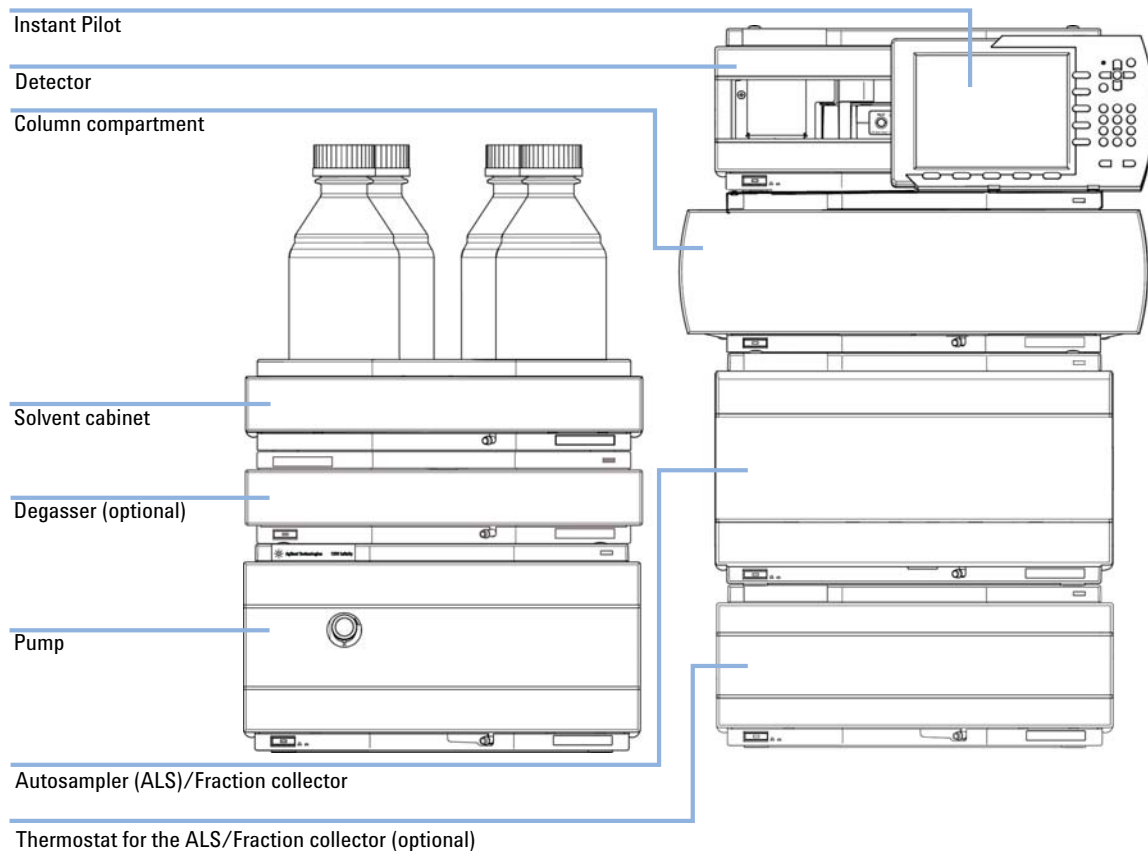
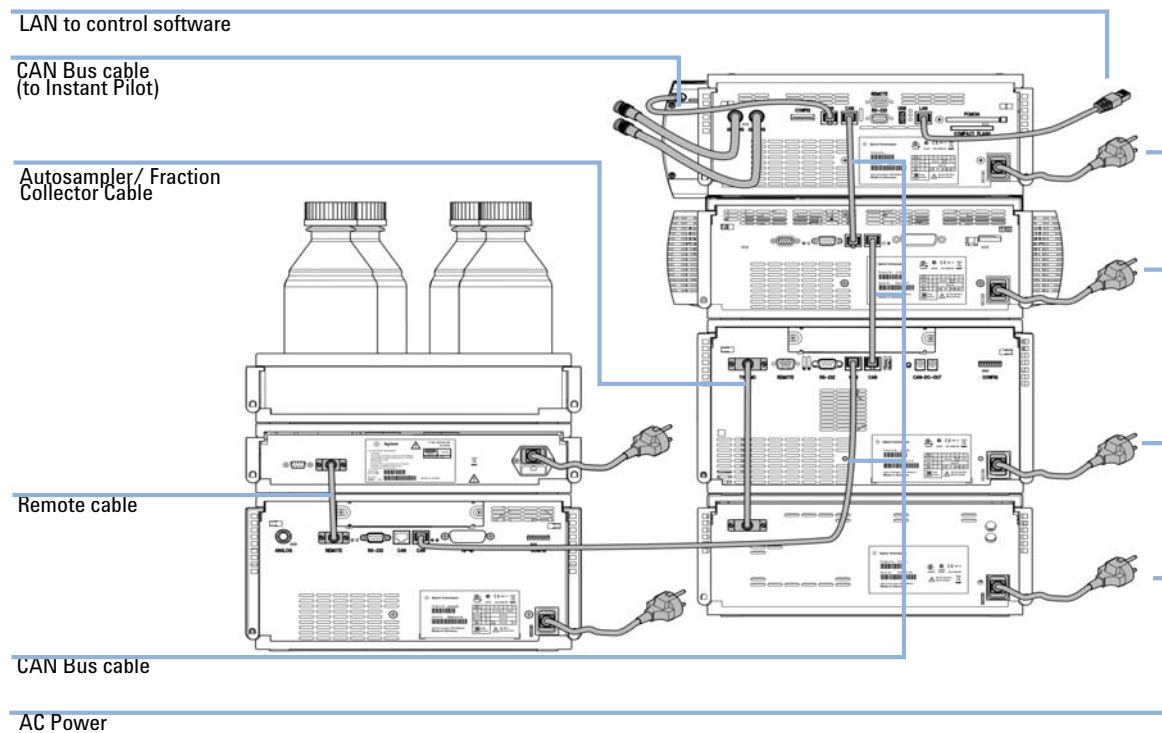
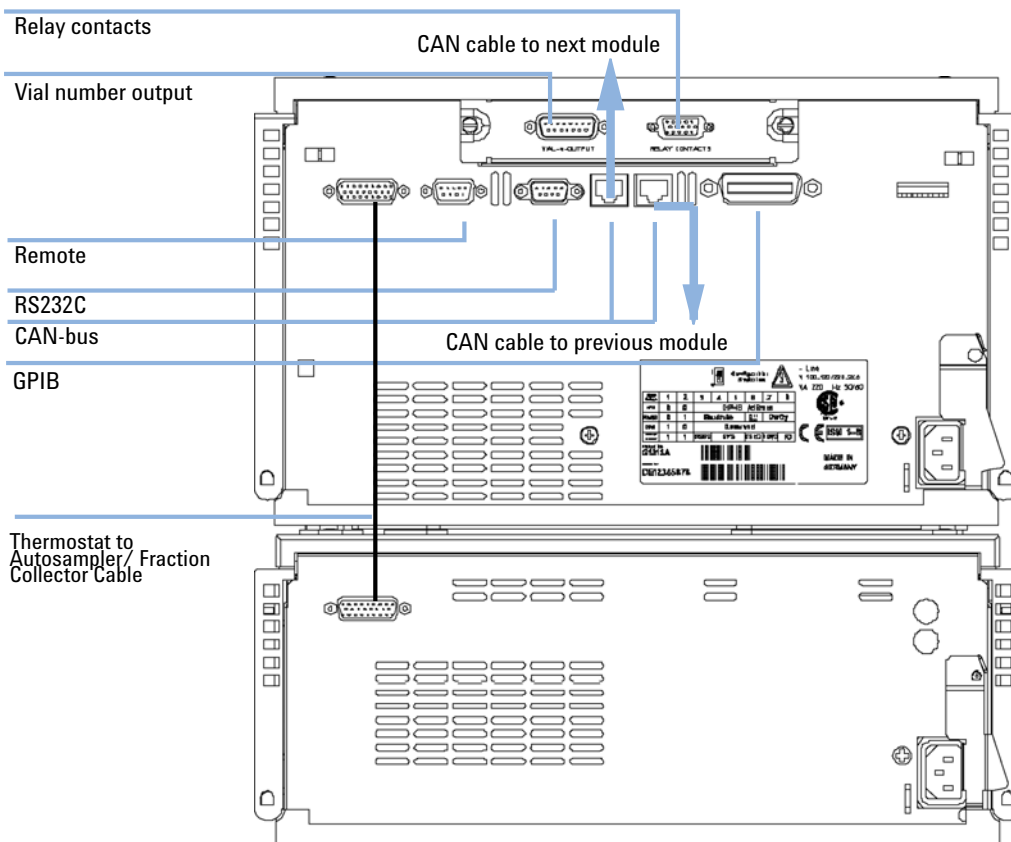

Figure 3 Recommended Stack Configuration (Front View)
Figure 4 Recommended Stack Configuration (Rear View)
Figure 9 Cable Connections.
If your autosampler/fraction collector is part of a system, you can ensure optimum performance by installing the autosampler/fraction collector in the stack in the position shown in Figure 3 on page 19 and Figure 4 on page 20. This configuration optimizes the system flow path, ensuring minimum delay volume. As the autosampler thermostat is very heavy, it should always be installed at the bottom of a stack.
- 5 Connect the CAN interface cables to other modules in the system (see Figure 4 on page 20 and Figure 9 on page 27).
- 6 If required, connect additional interface and control cables to the autosampler (see Figure 4 on page 20 and Figure 9 on page 27). Refer to the documentation of the Agilent 1200 Infinity Series Instant Pilot or ChemStation for LC for more information.
- 7 Connect additional cables as required (see Figure 9 on page 27).